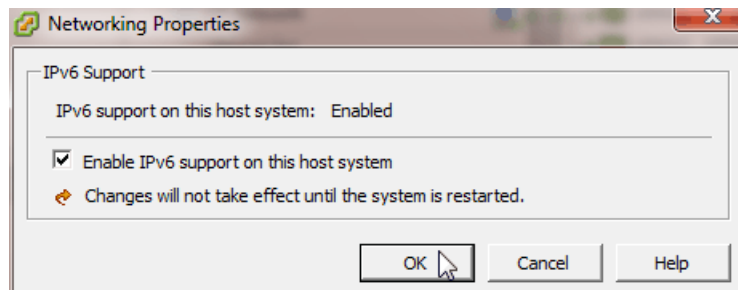

Figure 5-18 Enabling IPv6
- Select **Enable IPv6 support on this host system**, and click **OK**, as shown in Figure 5-18.